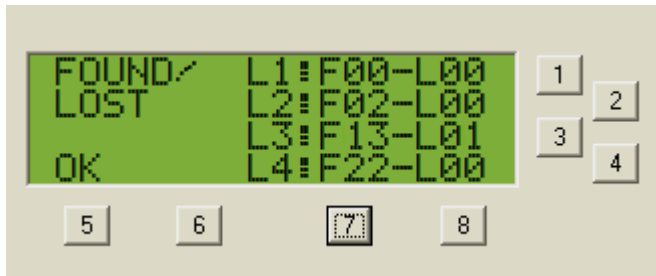

Figure 6
Pressing key 5 (OK) of Figure 6 will cause the return to main menu: